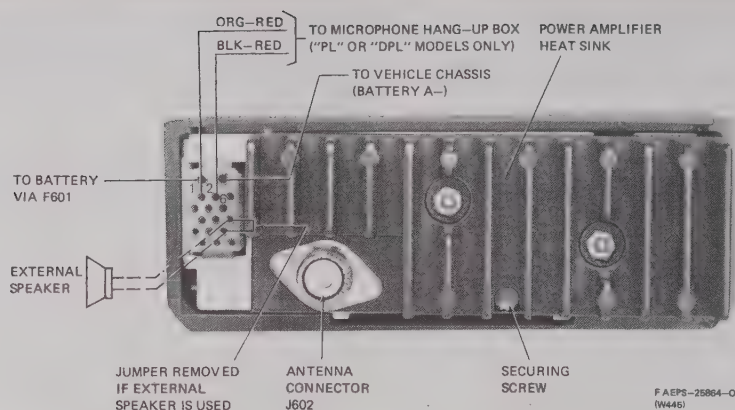

Figure 4.
Step 5. Connect the power plug and coaxial cable connector to the radio set. See Figure 4. Install the radio in the mounting bracket.